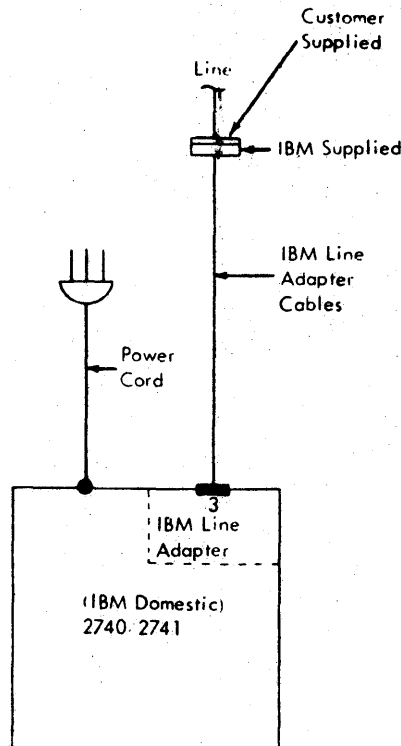

Figure 19. Point-to-Point
1. Point-to-point: one 2740 is connected to only one other 2740 (Figure 19), or only one 2740 per communication line is connected to the multiplexer of a remote computer.